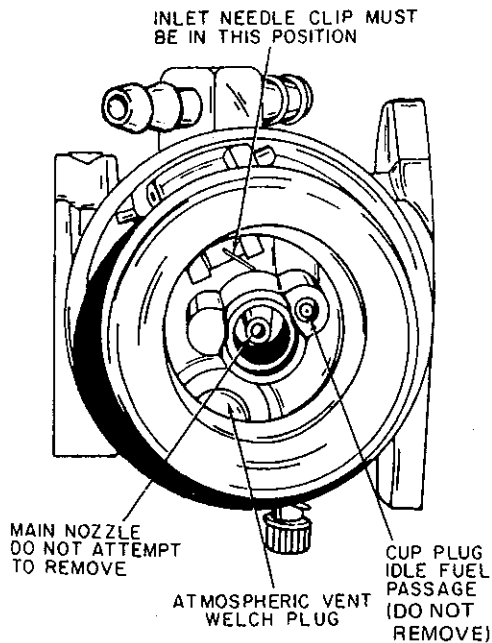

Figure 20
- (9) CARBURETOR BODY. Examine the carburetor body for wear and damage.
- a. It may be necessary to remove the large welch plug (Figure 20 and 21) if excessive dirt has accumulated in the atmospheric vent cavity, or it may be possible to clean this cavity with carburetor cleaner or compressed air without removing the welch plug.
- b. The carburetor body contains a main nozzle tube (Figure 20) pressed into the carburetor body to a predetermined depth and positioning within the venturi of the carburetor. Do not attempt to re-